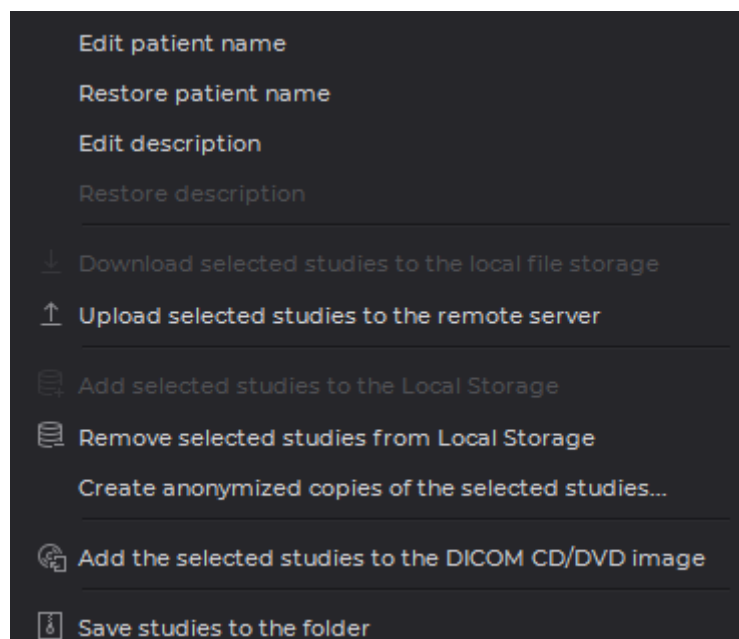

Figure 1.20: Study context menu
1. Right-click on the study on the study panel. The context menu shown in Fig. 1.20 will pop up.